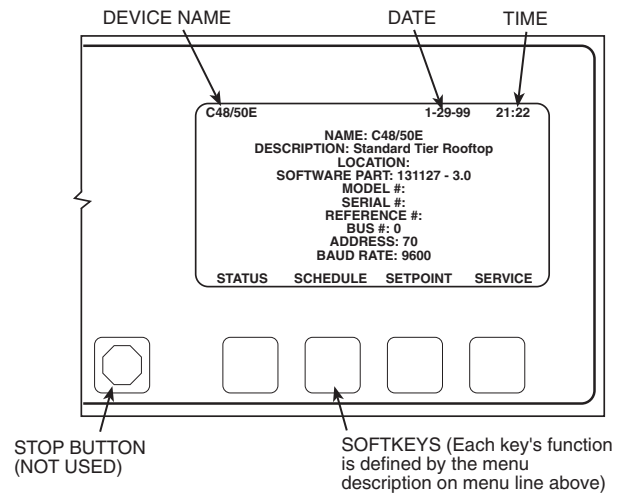

Fig. 12 — Remote Enhanced Display Controller ID Screen, 48/50E Series Units
- Once the uploading process is complete, the display will show the default screen for *ComfortLink*TM and 30GX,HX PSIO based applications; or for 48/50E series applications, the controller ID screen will appear showing pertinent information of the controller. See Fig. 12 and 13. The enhanced display is ready for use.